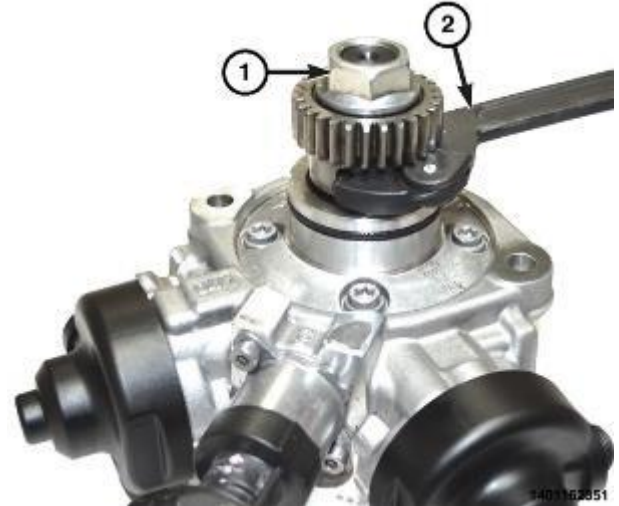

Figure 44 – Nut with Spanner Wrench
- 79. Using a commercially available spanner wrench (2) such as Blue Point APS351B or equivalent, tighten the nut (1) to 50 N·m (37 ft. lbs.) (Figure 44).